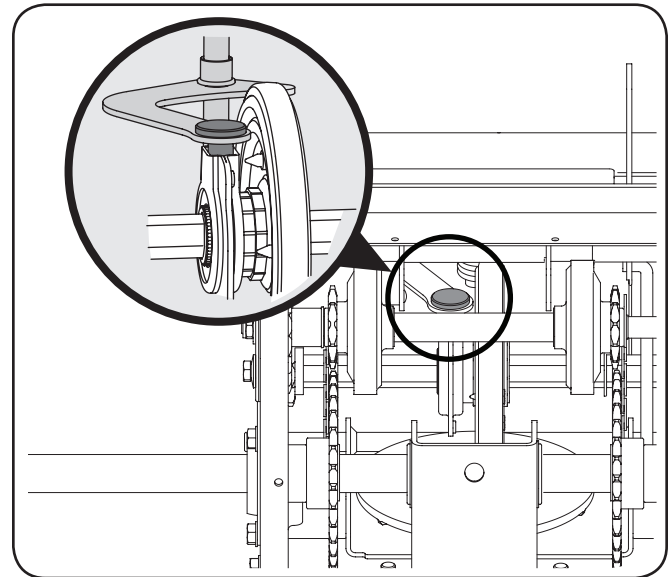

Figure 7-13
- Reposition the friction wheel assembly in the snow thrower frame. Insert the pin from the shift arm assembly into the friction wheel assembly and hold assembly in position. Refer to Figure 7-13 .